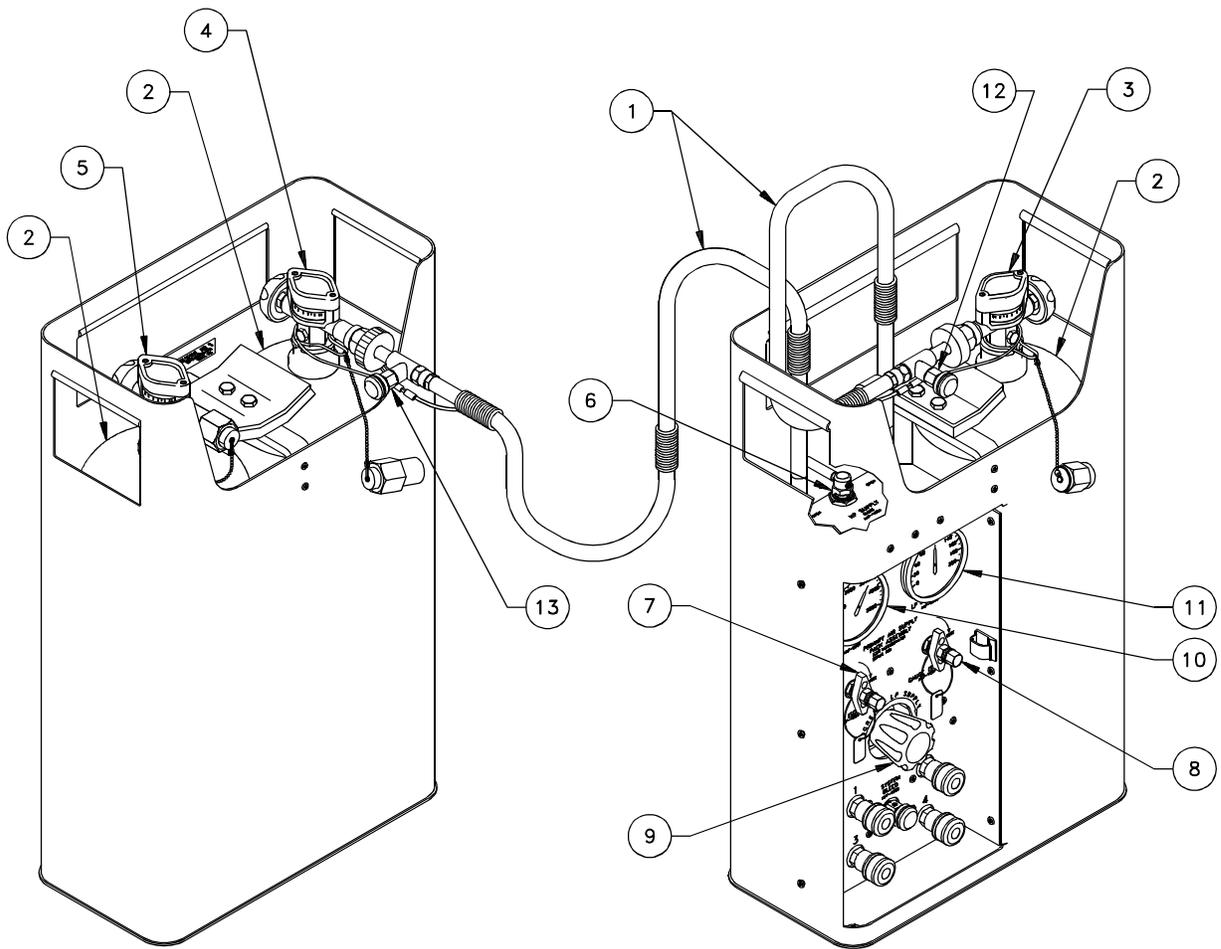

Figure 6-2. System Tightness Test (RASP is Optional)
6.5.2.2 System Tightness Test (Figure 6-2).